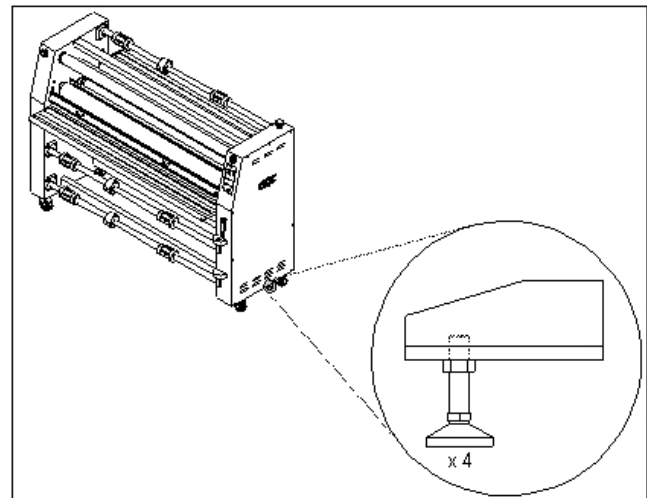

Fig 4
5. Leveling of the machine is a customer option. If you choose not to level the laminator and encounter output problems, please level the machine and try your application again before calling for technical support. Resting the laminator on the leveling pads prevent the machine from rolling during set up, operation or servicing. (Figure 4)